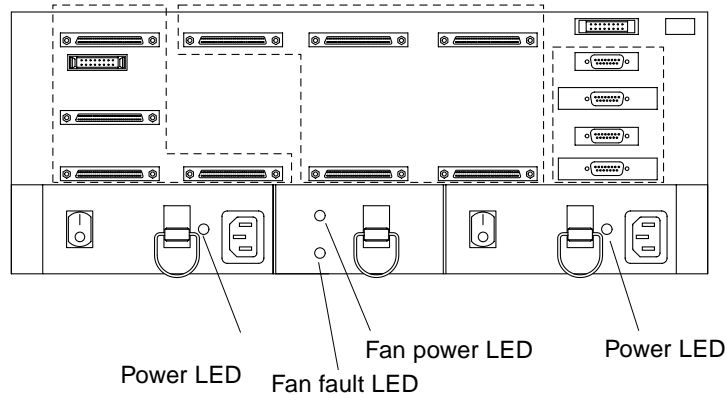

FIGURE 4-4 Controller Module LEDs (Rear View)
- Check the LEDs on the rear of the controller module (FIGURE 4-4).